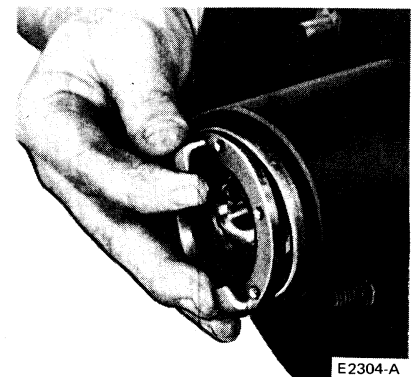

FIG. 11 Installing Cam Body Ring into the Clutch Retaining Ring
6. Install the actuating cam body ring into the outer clutch retaining ring. Assemble into hub (Fig. 11).